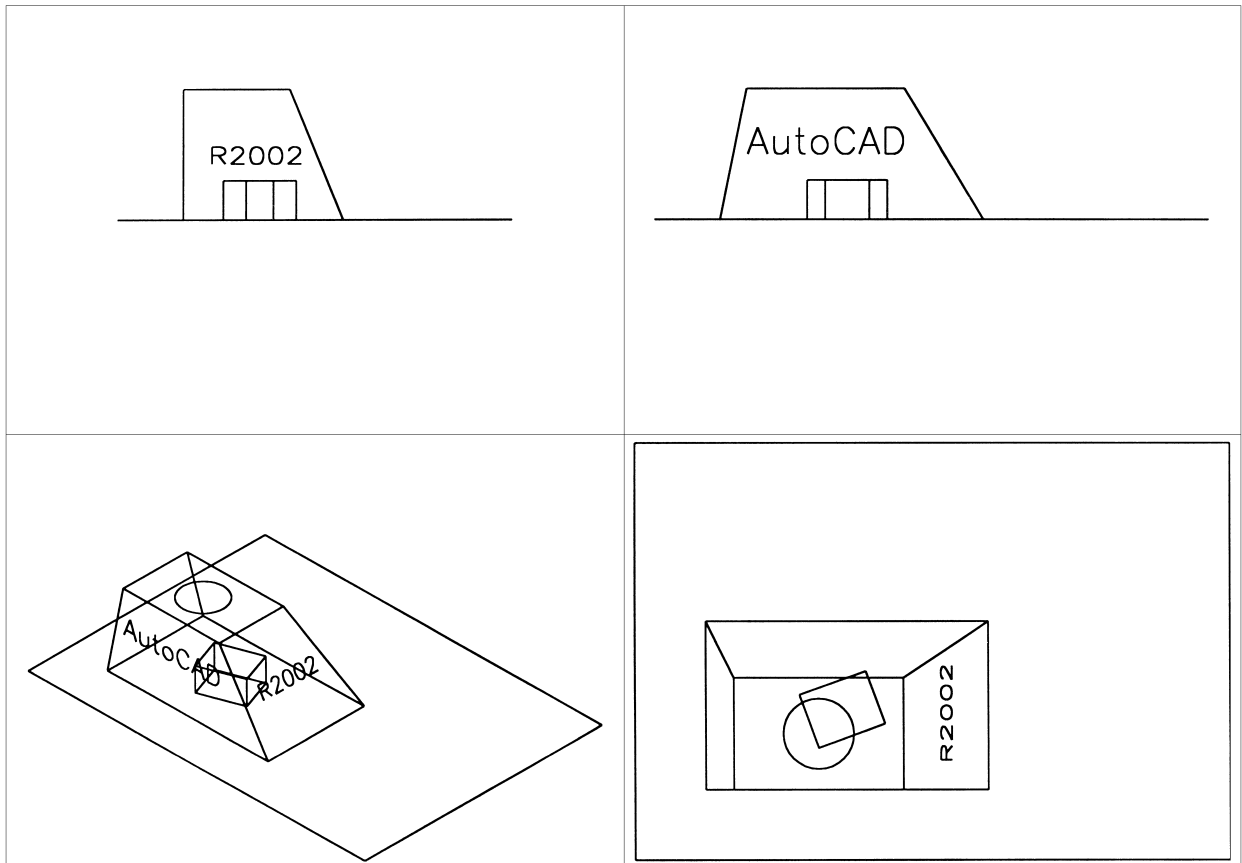

Figure 9.6 Completed viewport example 2 – TEST3D.
- 18 The complete four viewport configuration display should be similar to Fig. 9.6